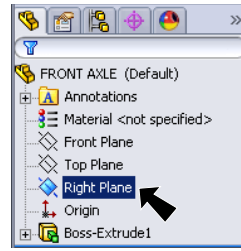

Fig. 6
Step 10. Click **Zoom to Fit**  (F) on the View toolbar.
Step 1. Click **Right Plane**  in the Feature Manager to select Plane, **Fig. 6**.